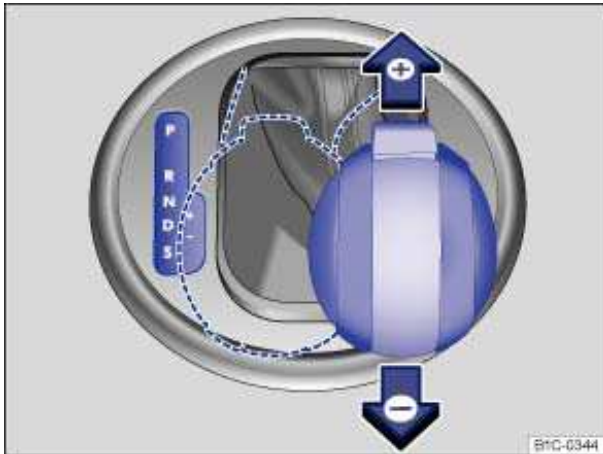

Fig. 101 Selector lever in Tiptronic position.
- Briefly push the selector lever forward (+) to upshift into a higher gear or backward (–) to downshift into a lower gear ⇒ fig. 101.